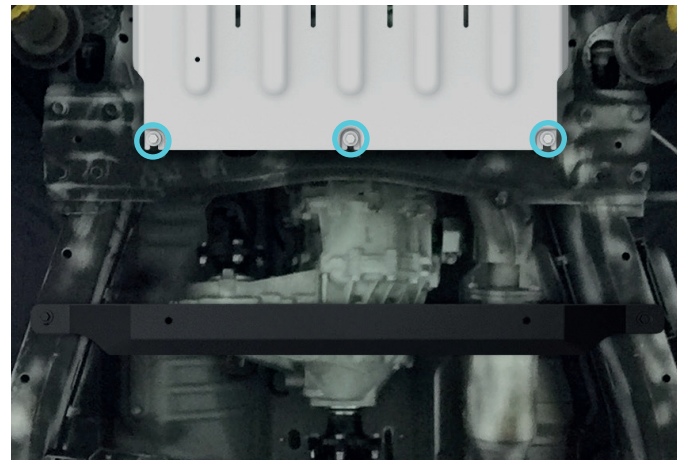

Fig. 2.2
2.2 If RIVAL transmission skid plate is installed: loosen its rear bolts as shown in fig. 2.2.